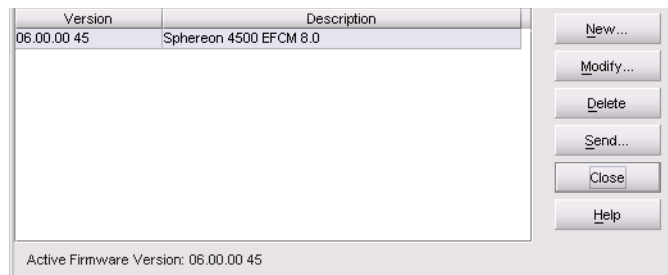

Figure 4-45 Firmware Library Dialog Box
5. Select the *Firmware Library* option from the *Maintenance* menu. The *Firmware Library* dialog box displays (Figure 4-45).